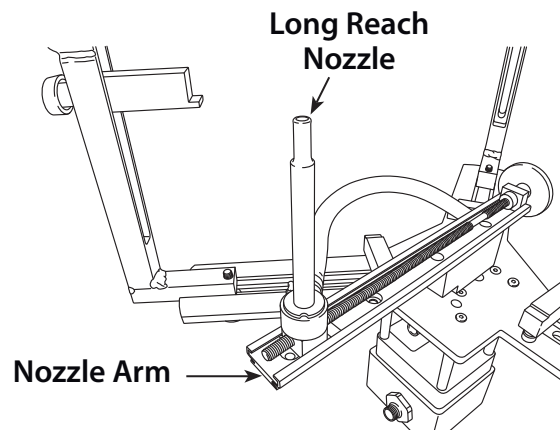

Figure 2A
3. Thread the Long Reach Nozzle onto the arm and use the wrench provided to fasten it in place. (Figure 2A)